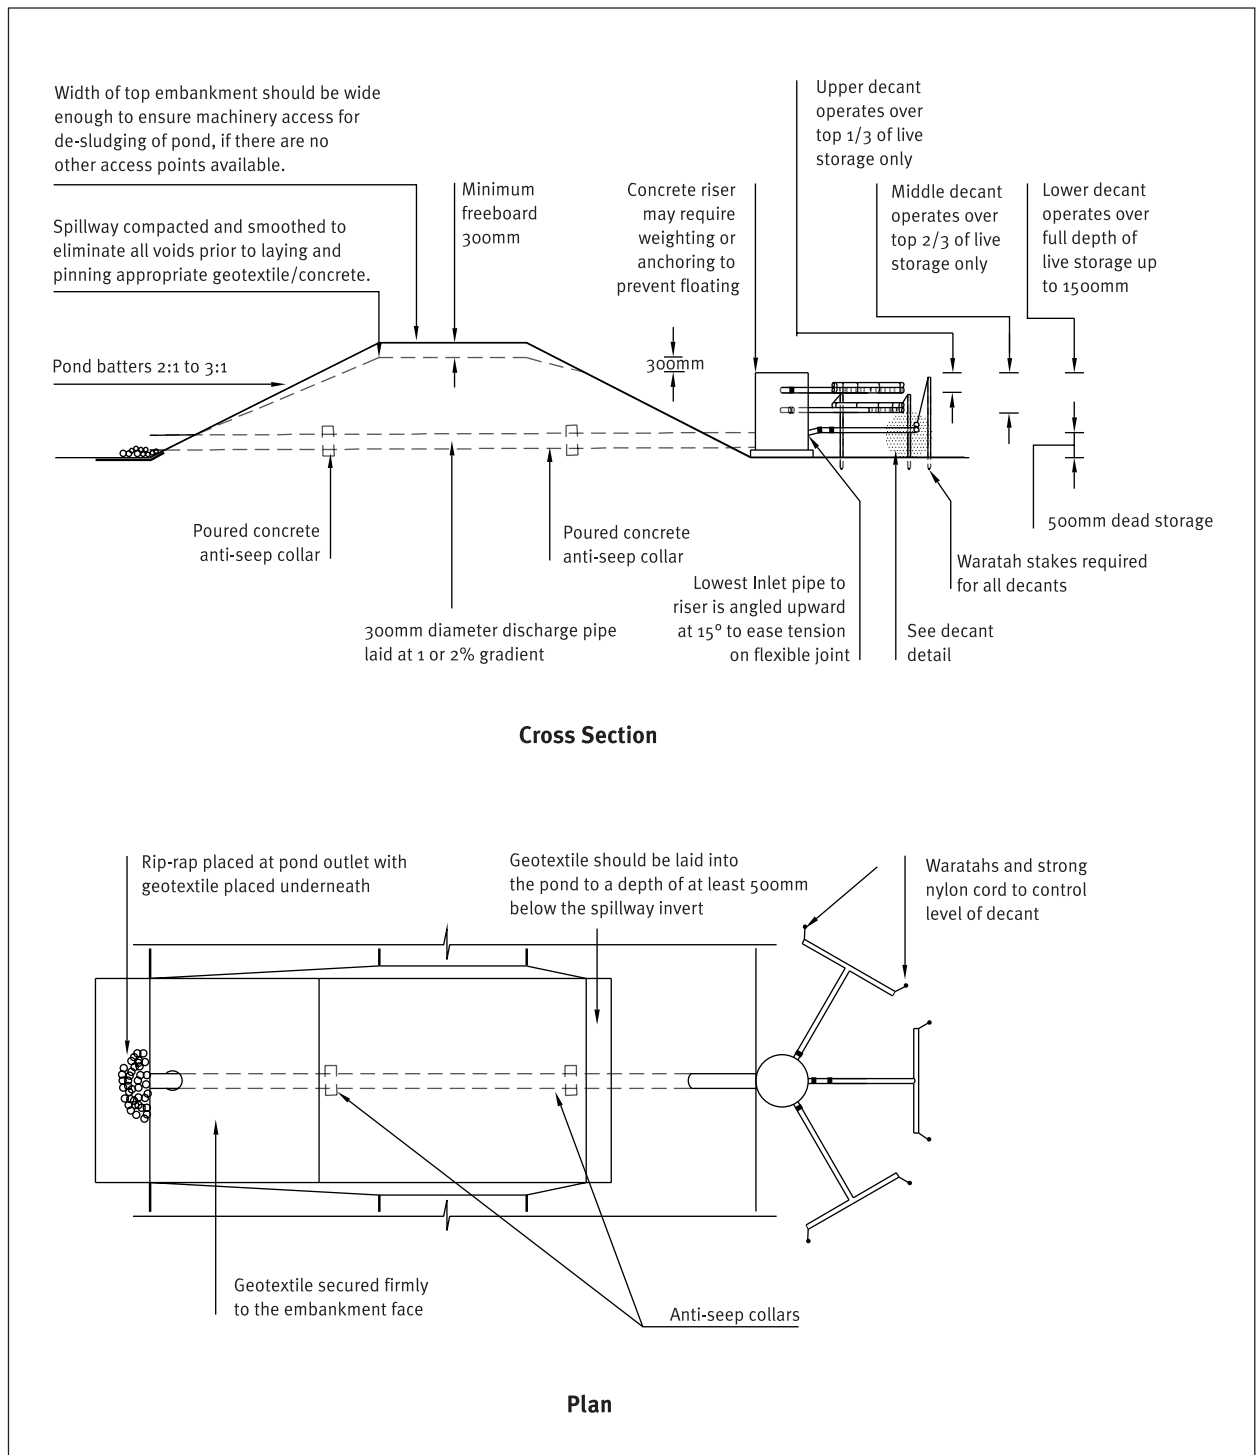

Figure 2.1.4 Sediment Retention Pond for Catchments Between 3 and 5 ha
- If three decant systems are to be used, then the lower T-bar decant operates through the full live storage depth and the second T-bar decant through the upper two thirds of live storage depth of the Sediment Retention Pond. The upper T-bar decant operates through the upper one third of live storage depth of the Sediment Retention Pond as detailed in Figure 2.1.4.